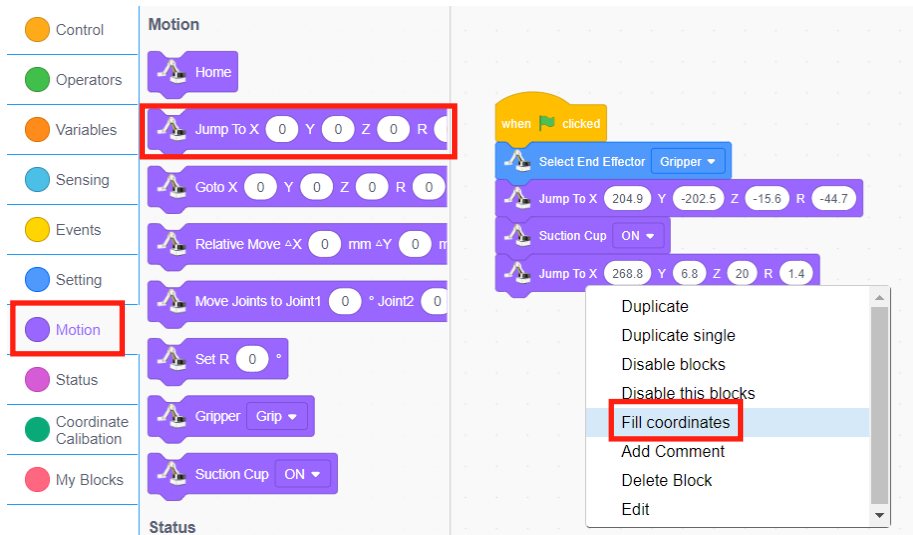

Figure 1.14 JUMP move onto the paperboards
Step 10: Move the end of the robotic arm over the paperboards. Click the "**Motion**" tab, drag the "Jump To (X, Y, Z, R)" block and put it together with the previous block. Right-click and select "Fill-in Coordinates", as shown in Figure 1.14.